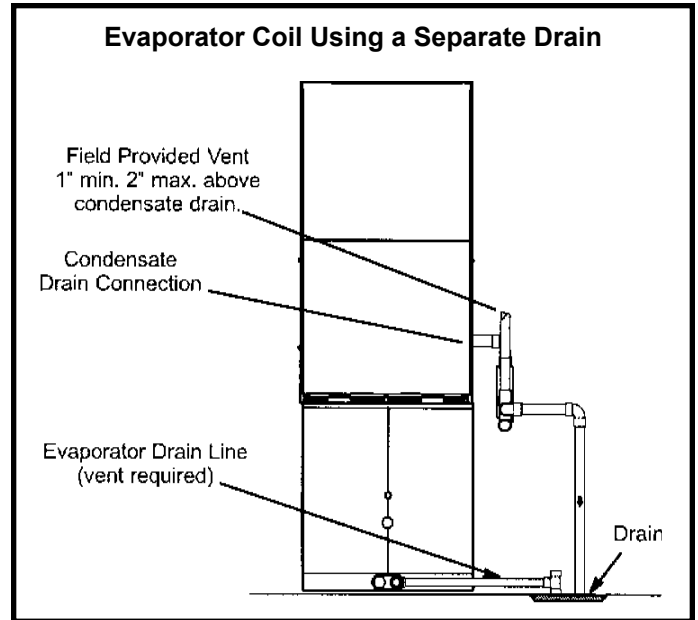
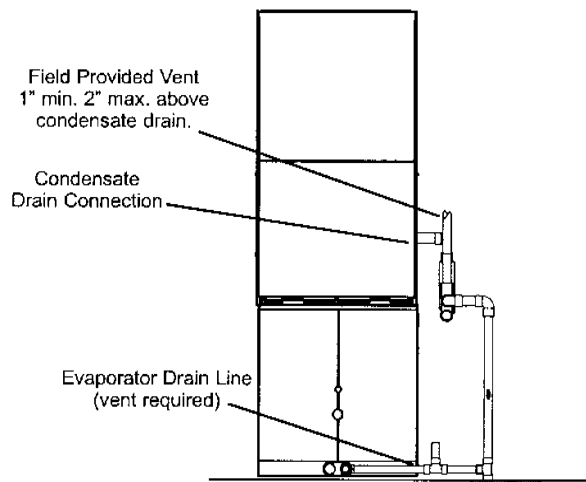

Figure 45
Figure 46
5. Figure 45 shows the furnace and evaporator coil using a separate drain. If necessary, the condensate line from the furnace and evaporator coil can drain together. See Figure 46. The field provided vent must be a minimum 1" to a maximum 2" length above the condensated drain outlet connection.